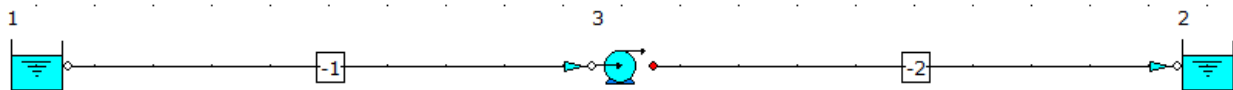

Figure 37: Converged Hydraulic Model
39. Check the converged hydraulic model in the flowsheet. The blue arrowhead shows that the flow direction is from the source node 1 to the sink node 2. Also, check if the pipes and pump are highlighted in **RED**, indicating that we have a warning message associated with the pipe elements and pump (Figure 37).